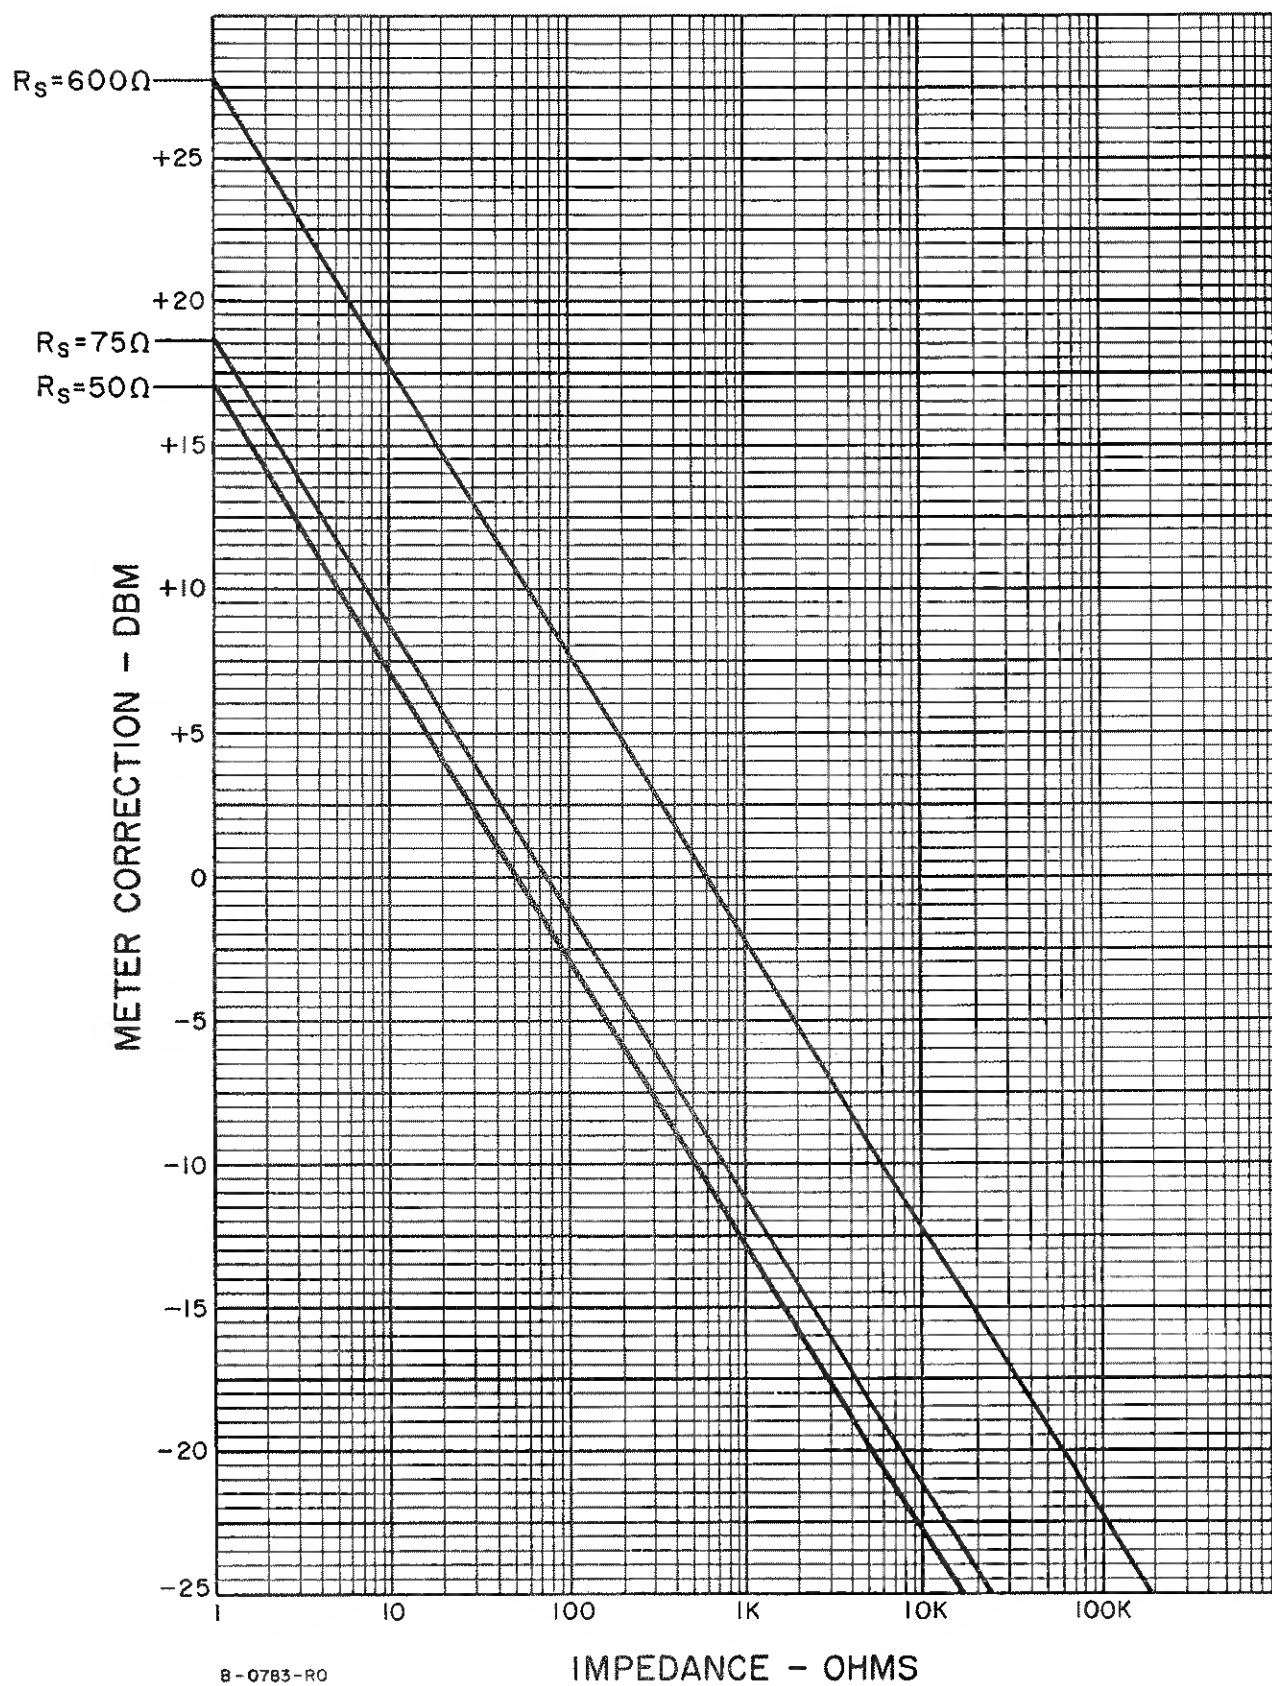

Figure 3-2. Impedance Correction Graph
- g. The output monitor, M1, indicates the rms value of the output voltage, and the power level in dBm for resistive loads of 50 ohms. The output voltage level is obtained by multiplying the monitor scale readings by the monitor scale multiplier which appears on the OUTPUT ATTENUATOR switch. Use the following equation and the impedance correction graph of Figure 3-2 to obtain the Model 651B output power level in dBm, for loads other than those marked on the output connectors.
The indicated power level for an actual output voltage of 1.66 volts would be +17.3 dBm on the 3.0 V (+20 dBm) range. The actual power level (with the 600 Ω load) is the algebraic sum of the theoretically indicated power level (+17.3 dBm) and a correction factor obtained from the impedance graph of Figure 3-2. For this example, a correction factor of -10.8 dBm is obtained from the 50 Ω output impedance line of the graph with a 600 Ω load. The actual power level then is +6.5 dBm [+17.3 dBm + (-10.8 dBm)].
For Option 01-651B which has the dBm scale of the output monitor referenced to 1 milliwatt into 600 Ω use the 600 Ω output impedance line of graph of Figure 3-2.
For Option 02-651B which has the dBm scale of the output monitor referenced to 1 milliwatt into 75 Ω use the 75 Ω output impedance line of graph of Figure 3-2.